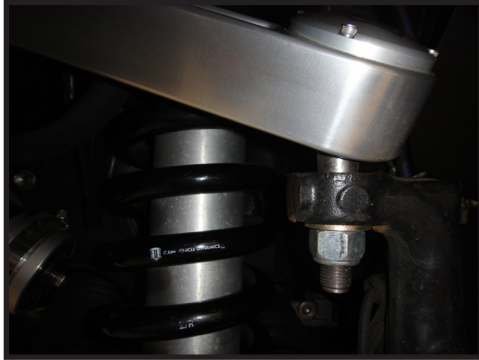

FIG.2
11. Rotate the arm down and install the stem through the spindle taper. Install the supplied washer and nut on the taper pin. As you begin to tighten the stem nut the stem may want to spin. If so you can keep it from spinning by holding the upper 12 pt bolt. Once the taper has seated, friction will keep it from spinning and use a 7/8" socket/wrench to tighten. [Torque to 75 ft-lbs] **(FIGURE 2)**